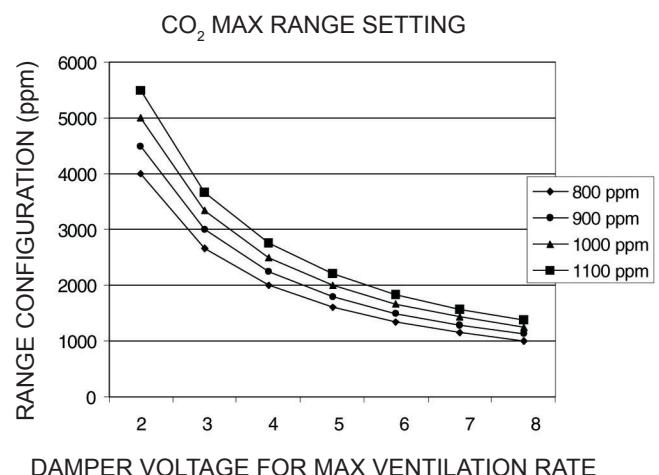

Fig. 18 - CO2 Sensor Maximum Range Setting
**INDOOR AIR QUALITY (IAQ) SENSOR INPUT** — The IAQ input can be used for demand control ventilation control based on the level of  $\text{CO}_2$  measured in the space or return air duct. Mount the accessory IAQ sensor according to manufacturer specifications. The IAQ sensor should be wired to the AQ and AQ1 terminals of the controller. Adjust the DCV potentiometers to correspond to the DCV voltage output of the indoor air quality sensor at the user-determined set point. See Fig. 18.
The same equation can be used to determine the occupied or maximum ventilation rate to the building. For example, an output of 3.6 volts to the actuator provides a base ventilation rate of 5% and an output of 6.7 volts provides the maximum ventilation rate of 20% (or base plus 15 cfm per person). Use Fig. 18 to determine the maximum setting of the  $CO_2$  sensor. For example, a 1100 ppm set point relates to a 15 cfm per person design. Use the 1100 ppm curve on Fig. 18 to find the point when the  $CO_2$  sensor output will be 6.7 volts. Line up the point on the graph with the left side of the chart to determine that the range configuration for the  $CO_2$  sensor should be 1800 ppm. The Economizer controller will output the 6.7 volts from the  $CO_2$  sensor to the actuator when the  $CO_2$  concentration in the space is at 1100 ppm.